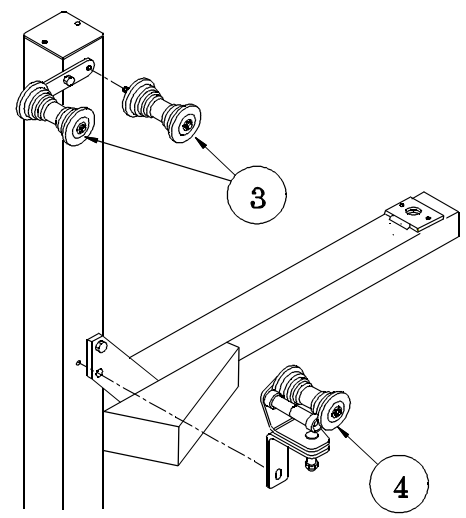

FIGURE 2
3. Replace the 35mm pulleys and bracket on the top of the control side of the column with a new Bracket (1168) and Column Shaft and Pulley Assemblies (1552) as shown in Fig. 2 (page 2).
4. Remove the three 35mm Column Castor Mount Assemblies from the column and replace with three 70mm Column Castor Mount Assemblies (4317). (See Fig. 2, page 2).